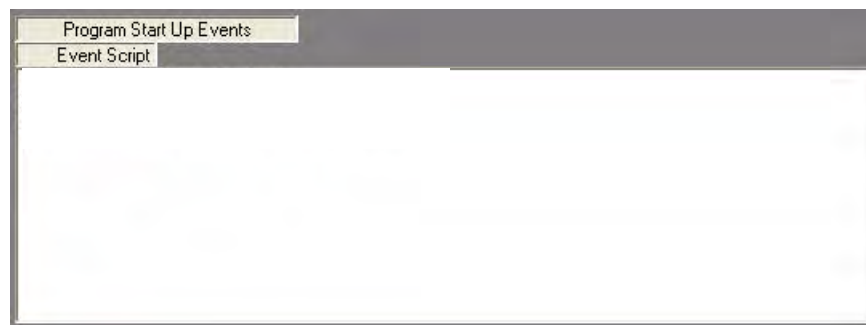

FIG. 84 Program Start Up Events (Event Script) window
2. This invokes the *Program Start Up Events (Event Script)* window (FIG. 84):